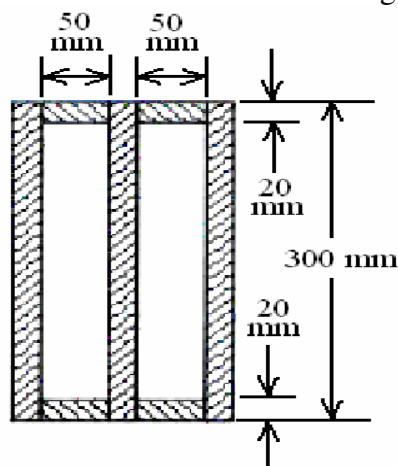

Figure 3
4. A plywood beam is built up of 6-mm strips separated by blocks as shown in Figure 3. What shearing force V will cause a maximum shearing stress of 1.4 MPa? [15]